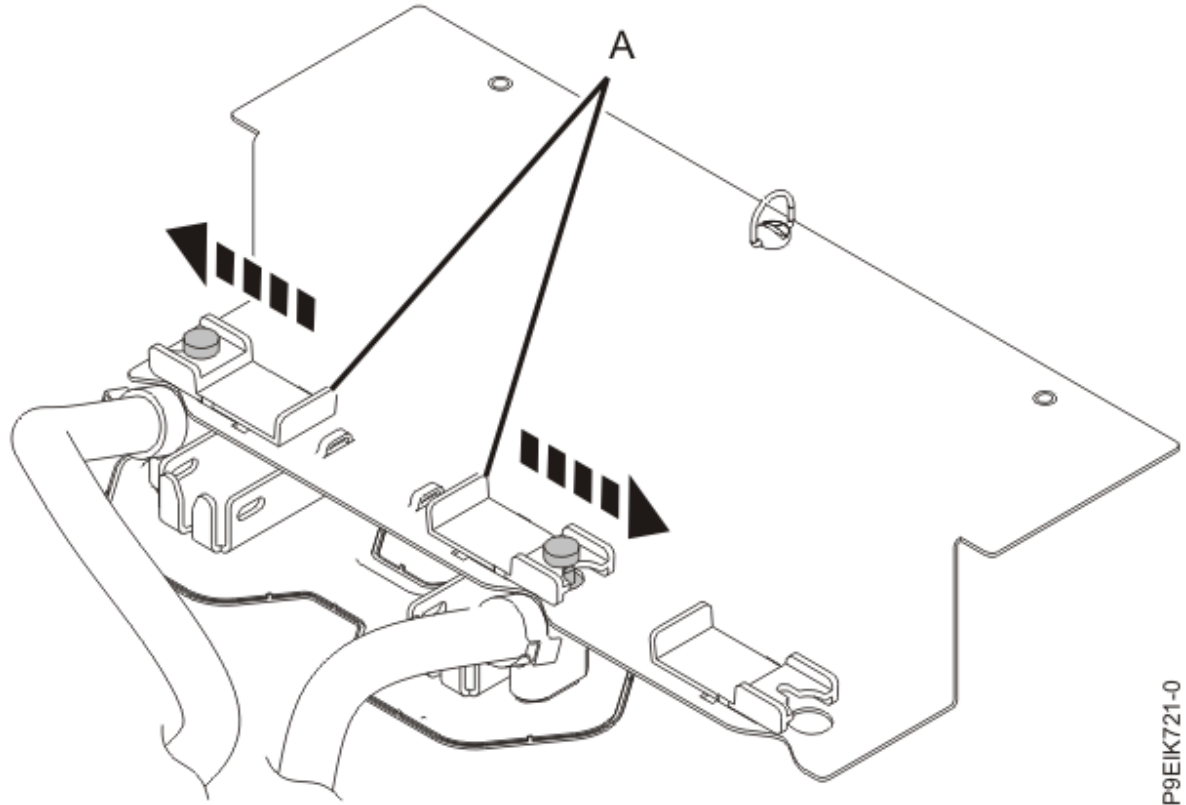

Figure 23. Securing the GPU cold plate pins
- c) Slide both of the plastic latches **(A)** into the narrowest part of the pin as shown in Figure 23 on page 26.